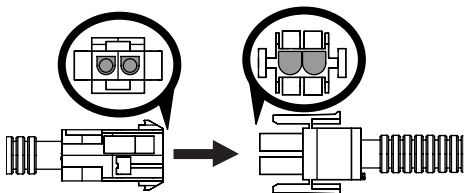

Figure 3
2. Connect the headlight harness/12V wiring harness to the main harness. Make sure the D-shape connectors align properly. See Figure 3.